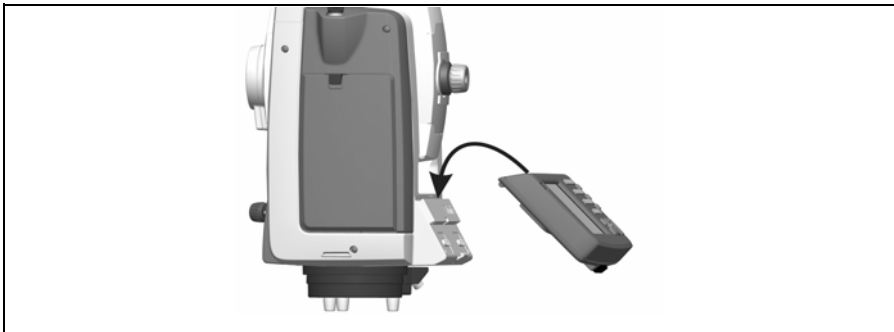

Figure 3.2 Attaching the controller
1. Hook the top of the controller over the top of the panel attachment. Figure 3.2.